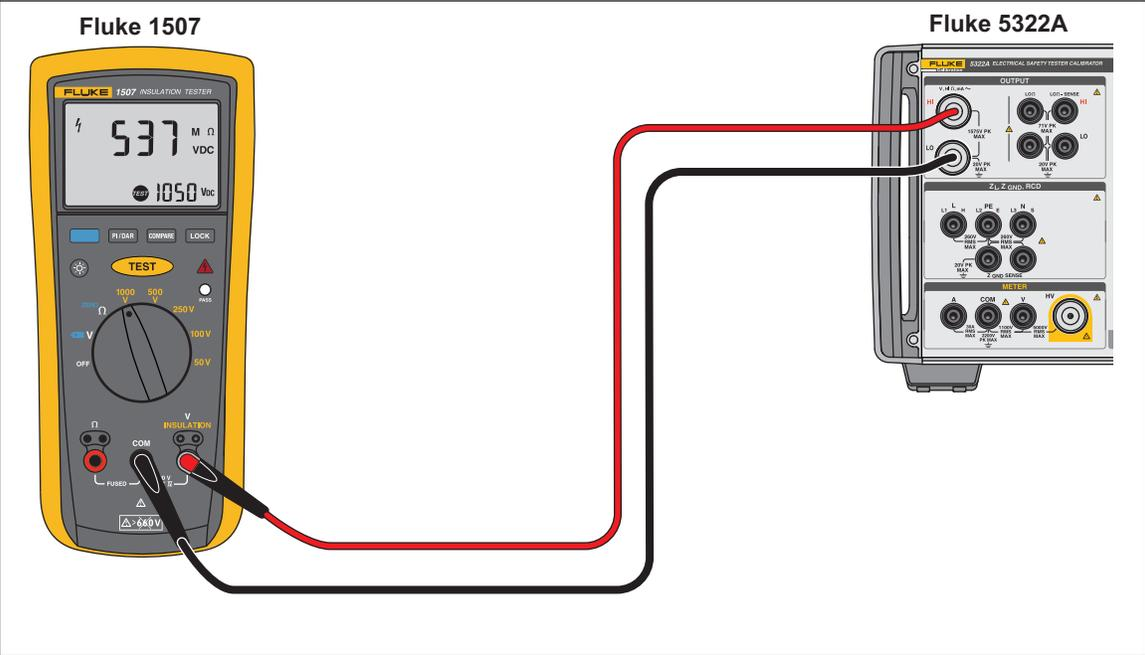

Figure 33. Calibrating Insulation Resistance of a Handheld Insulation Tester
2. Using Figures 33, 34, or 35, connect the DUT to the Product's **HI Ω OUTPUT HI** and **LO** terminals.